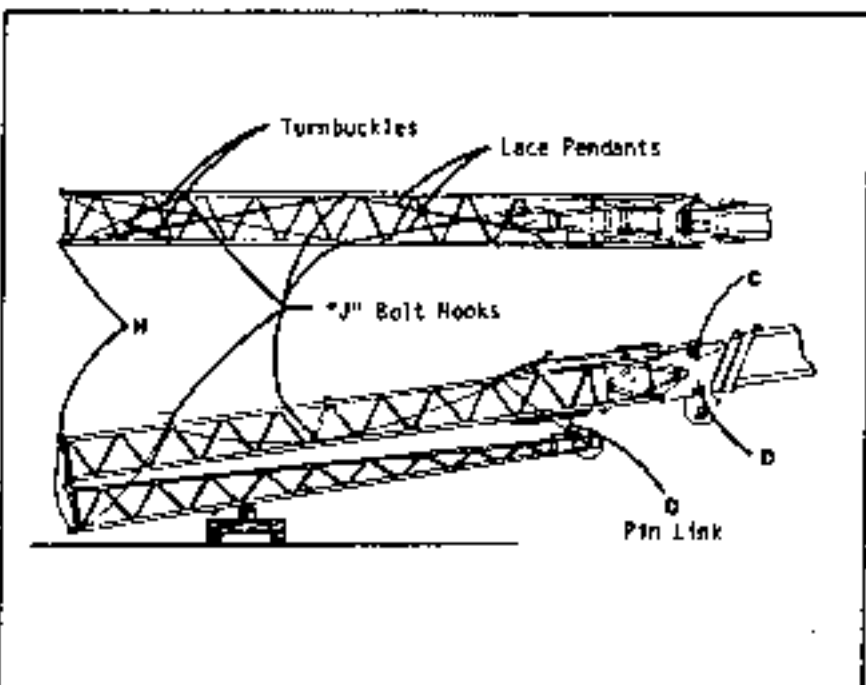

Fig. 4-34
Step 11: Boom down on cribbing until link "O" can be connected to support the jib top section. Refer to Fig. 4-34.